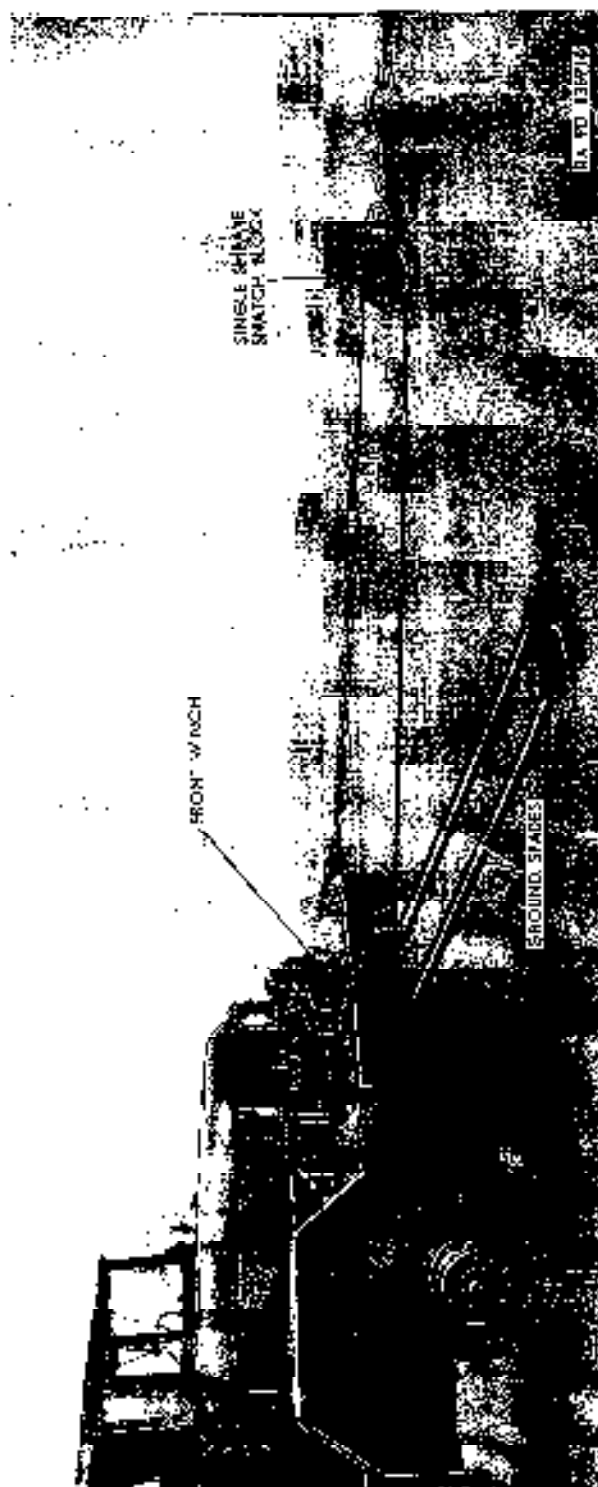

Figure 72. Ground stages positioned for front winch operation.
- (c) After the winch begins to pull the load with the engine idling, pull out on the throttle control until the desired winch operating speed, according to the requirements of the load, is attained. Leave the throttle control in the LOCKED-OUT position (fig. 72).